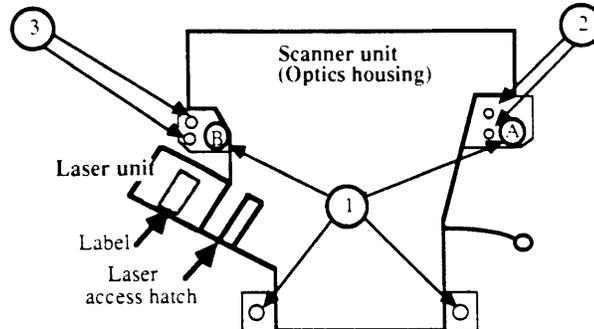

FIGURE 3-7
- To make the scanner unit movable, loosen the four large mounting screws (Figure 3-7, #1) and the two sealed screws closest to the laser (Figure 3-7, #3).
- Rotate the scanner unit around screw A (Figure 3-7): rotating the unit clockwise makes the horizontal line incline counterclockwise, and vice versa.
- Tighten the two sealed screws you had loosened earlier (Figure 3-7, #3) and loosen the two sealed screws on the other side of the scanner unit (Figure 3-7, #2).
9. Rotate the scanner unit around screw B (Figure 3-7): rotating the unit clockwise makes the horizontal line incline counterclockwise, and vice versa.